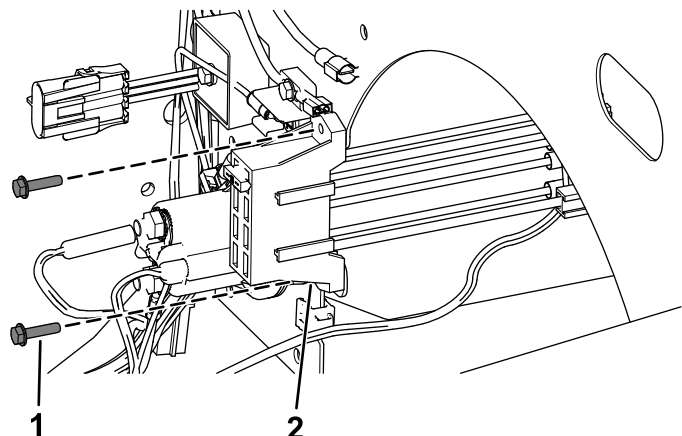

Figure 21
- For 2019 and after machines, secure the new fuse block using the 2 self-tapping screws as shown in Figure 21.